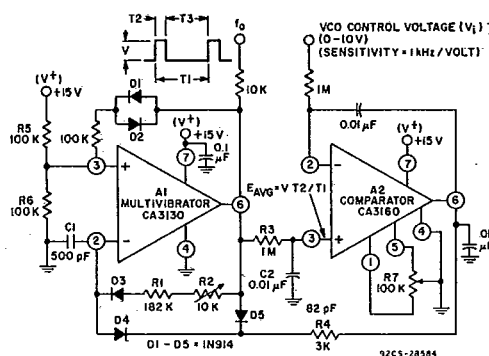

Fig.21 – Voltage-controlled oscillator.
The circuit diagram of a precision voltage-controlled oscillator is shown in Fig.21. The oscillator operates with a tracking error in the order of 0.02 percent and a temperature coefficient of 0.01%/°C. A multivibrator (A₁) generates pulses of constant amplitude (V) and width (T₂). Since the output (terminal 6) of A₁ (a CA3130) can swing within about 10 millivolts of either supply-rail, the output pulse amplitude (V) is essentially equal to V₊. The average output voltage ($E_{avg} = V T_2/T_1$) is applied to the non-inverting input terminal of comparator A₂ via an integrating network R₃, C₂. Comparator A₂ operates to establish circuit conditions such that $E_{avg} = V_1$. This circuit condition is accomplished by feeding an output signal from terminal 6 of A₂ through R₄, D₄ to the inverting terminal (terminal 2)